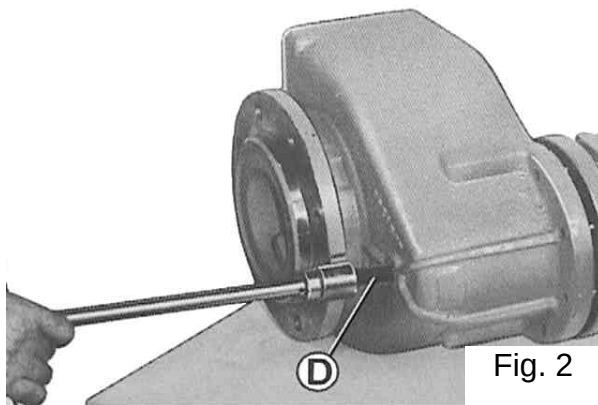

Fig. 2
- split the complete final drive from the hub, working with screw **D** of fig. 2 on the internal axle shaft;